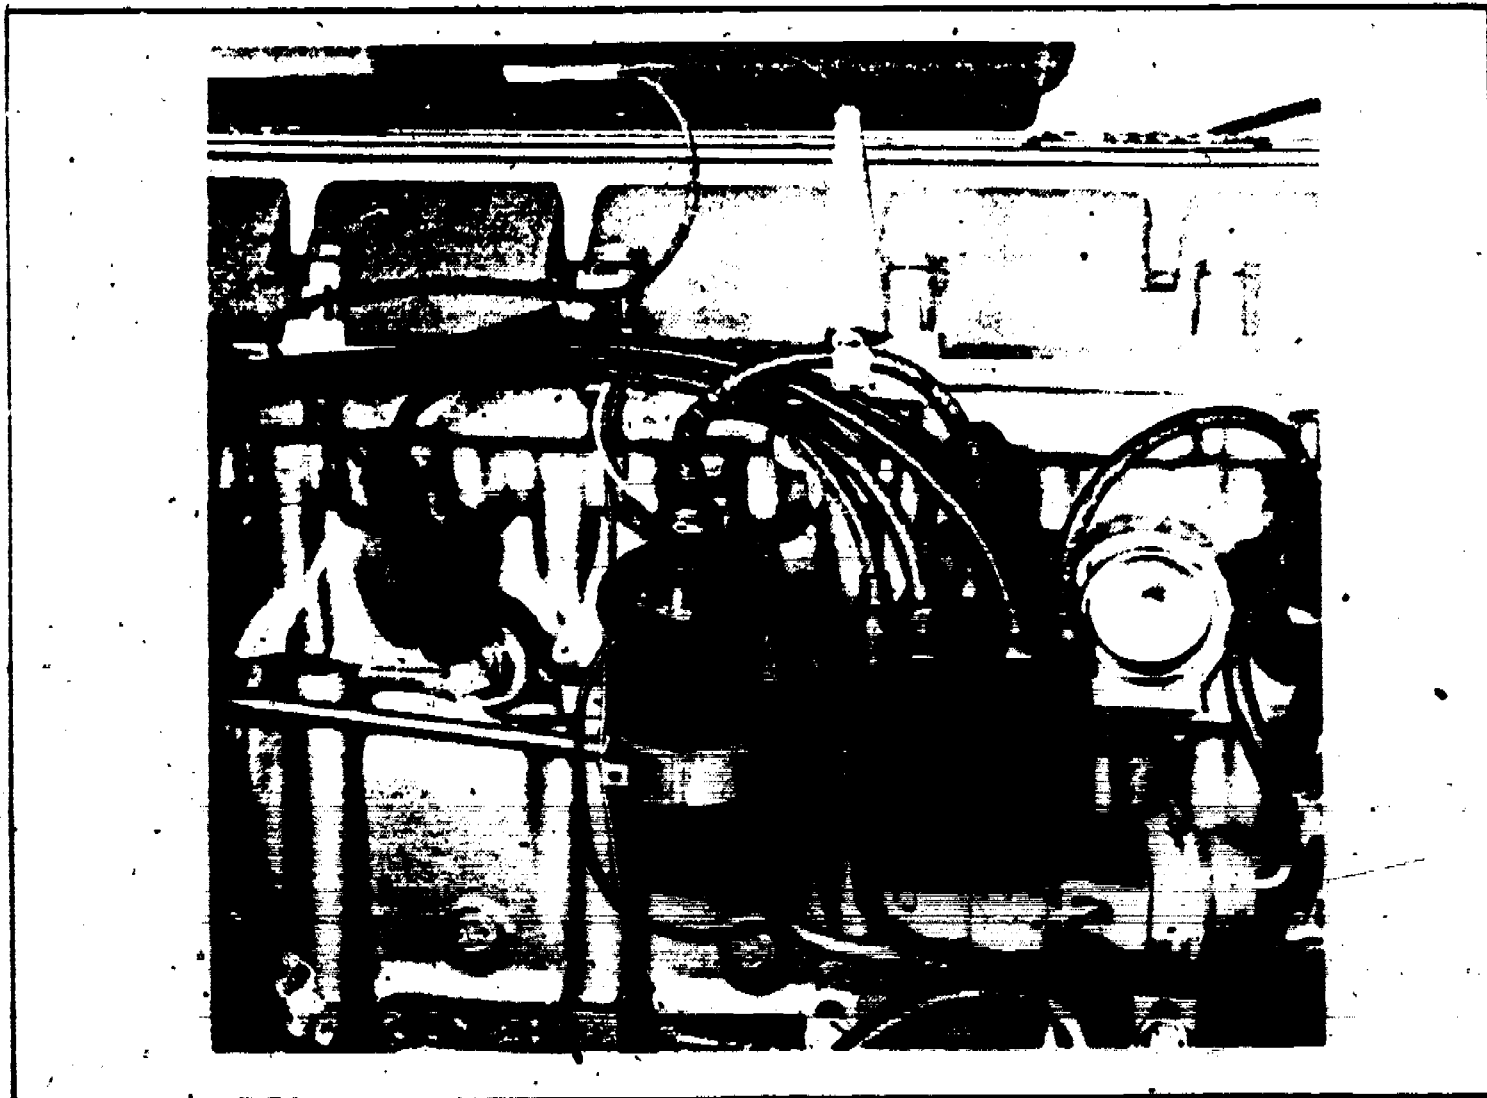

Figure 4-1. Secondary Display Waveform Connections
a. Connect red pattern pick-up lead (9, figure 1-1) to center of coil high tension lead as illustrated in figure 4-1.